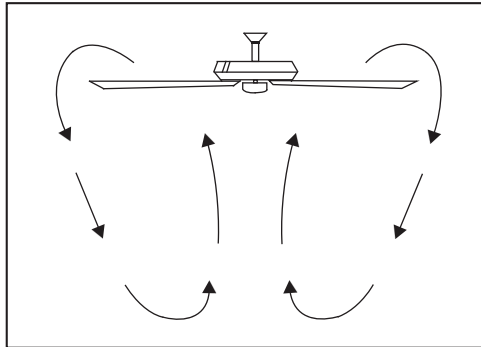

Figure 22
**Cool weather** - (Clockwise direction) An upward airflow moves warm air off the ceiling area. (Fig. 22) This allows you to set your heating unit on a lower setting without affecting your comfort.